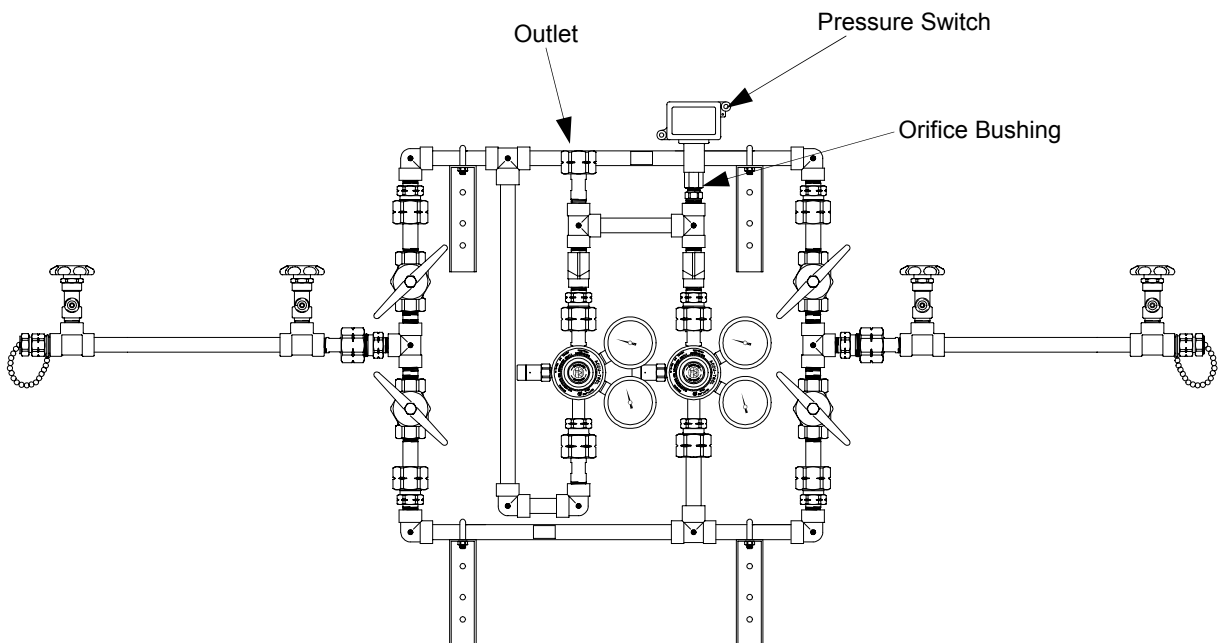

Figure 6
1. The outlet of the manifold is 1/2" female NPT (L.H. manifold union for Acetylene systems) located at the outlet of the pressure regulator, and shall be connected to the distribution pipeline system. (Figure 6)
1. Install an orifice bushing into the 1/2 NPT tee. (Figure 6)
2. Install the pressure switch onto the orifice bushing. (Figure 6)